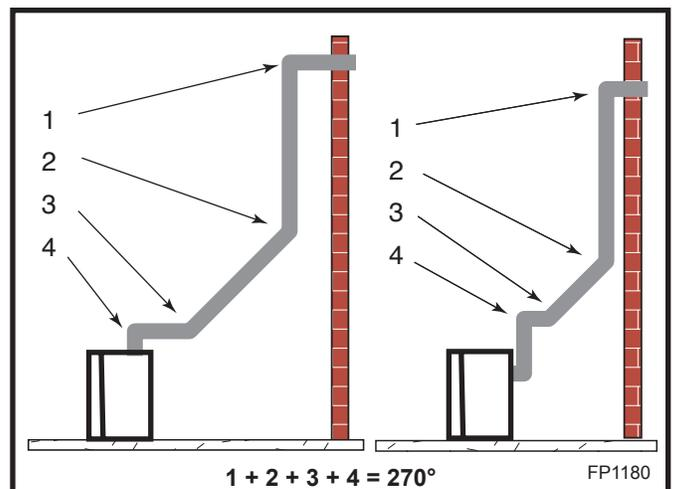

Fig. 31 Maximum elbow usage.
- The maximum number of 45° elbows permitted per side wall installation is two (2). These elbows can be installed in either the vertical or horizontal run.
- The maximum number of elbow degrees in a system is 270°. (Fig. 31)